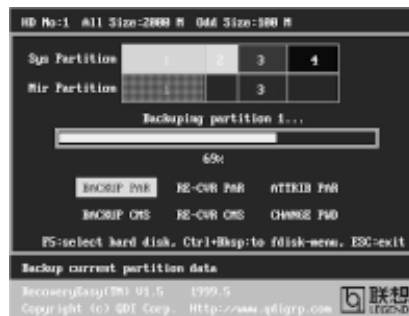

figure-4 Backup Partition
- During the process of partition backup or recovery, a guage will be shown as below, the backup or recovery speed is about 4-5Mbyte/s. See figure-4.